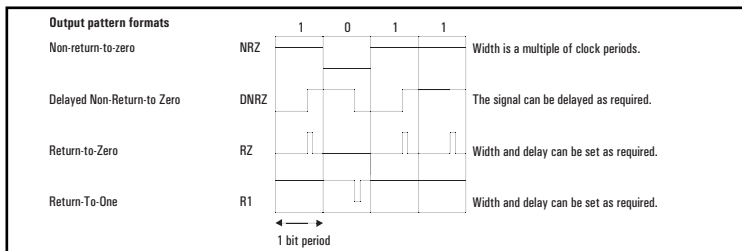

Figure 1: Pattern Formats
**Pattern formats:** NRZ (non-return-to-zero), DNRZ (delayed non-return-to-zero), RZ (return-to-zero) and R1 (return-to-one) can be selected (see figure 1)